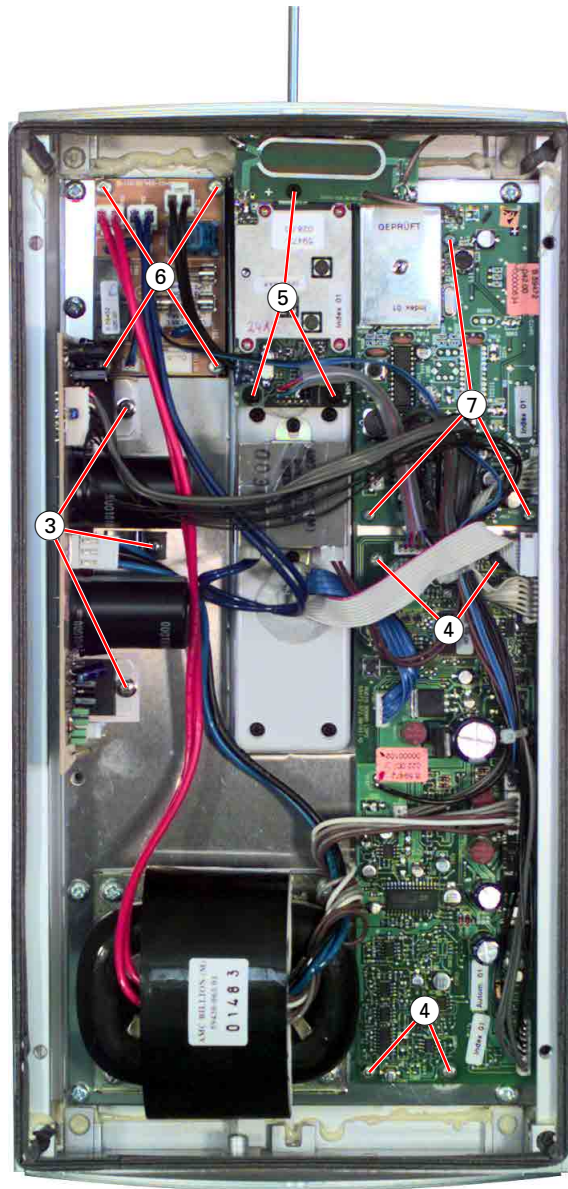
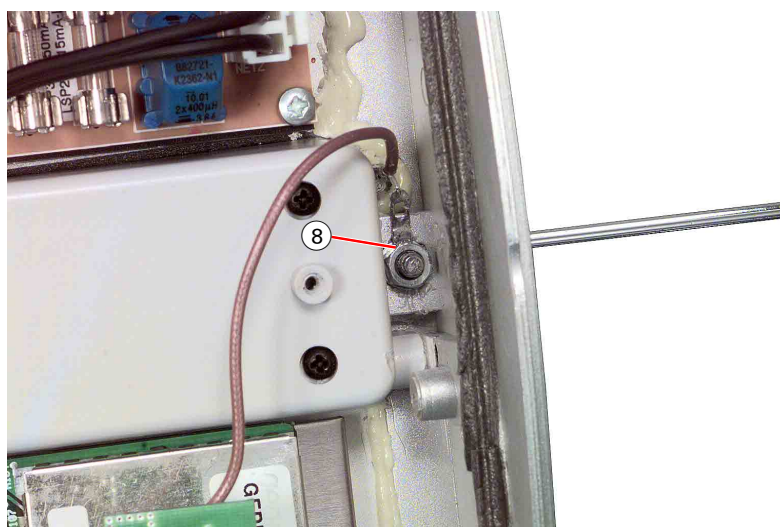

Fig. 4
Fig. 5
2. Removing the AF Amplifier Board (Fig. 4)
- Undo 3 screws ③ without damaging the heat conducting foil of the amplifier stages.
3. Removing the Audio Board (Fig. 4)
- Undo 4 screws ④.
4. Removing the Data Radio Module (Fig. 4)
- Undo 3 screws ⑤.
5. Removing the Mains Connection Board (Fig. 4)
- Undo 4 screws ⑥.
6. Removing the Receiver Board (Fig. 4)
- Undo 3 screws ⑦.
7. Removing the Antenna (Fig. 5)
- Remove the sealing compound and undo the nut ⑧.